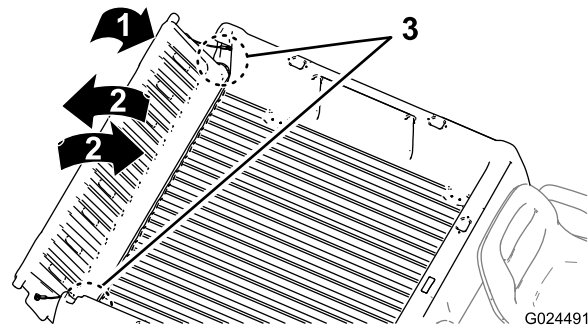

Figure 14
2. Rotate the tailgate to approximately 45° position (Figure 14).
- Use a short, shaking motion to rotate the tailgate back and forth several times (Figure 14).